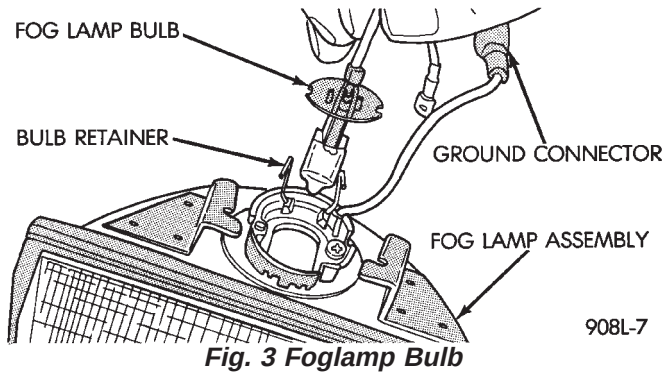

Fig. 3 Foglamp Bulb
- (5) Pull bulb from lamp (Fig. 3).
- (6) Disengage wire connector from body wire harness.